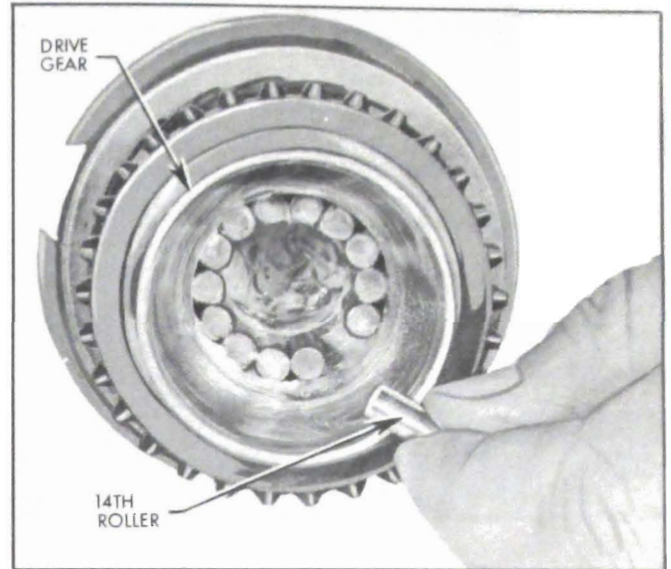

Figure 4-29—Loading Bearing Rollers in Drive Gear
10. Insert 14 bearing rollers in drive gear. Hold in place using heavy grease. See Figure 4-29.